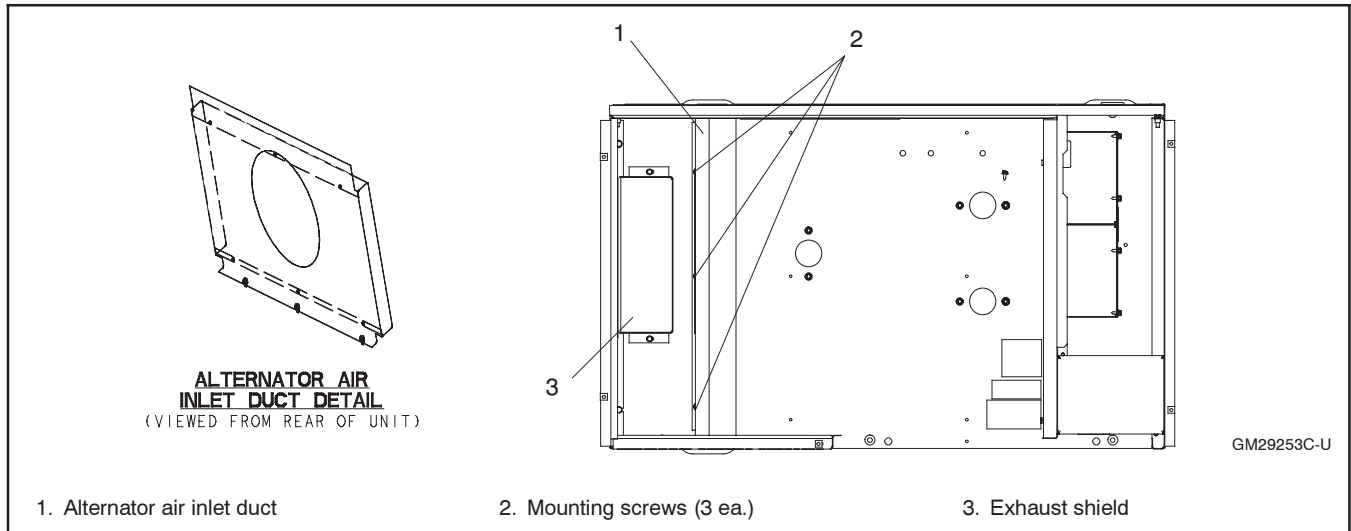

Figure 7-18 Alternator Air Inlet Duct
7. Reinstall the alternator air inlet duct. Orient the duct as shown in Figure 7-18.
8. Install the exhaust shield. See Figure 7-18.